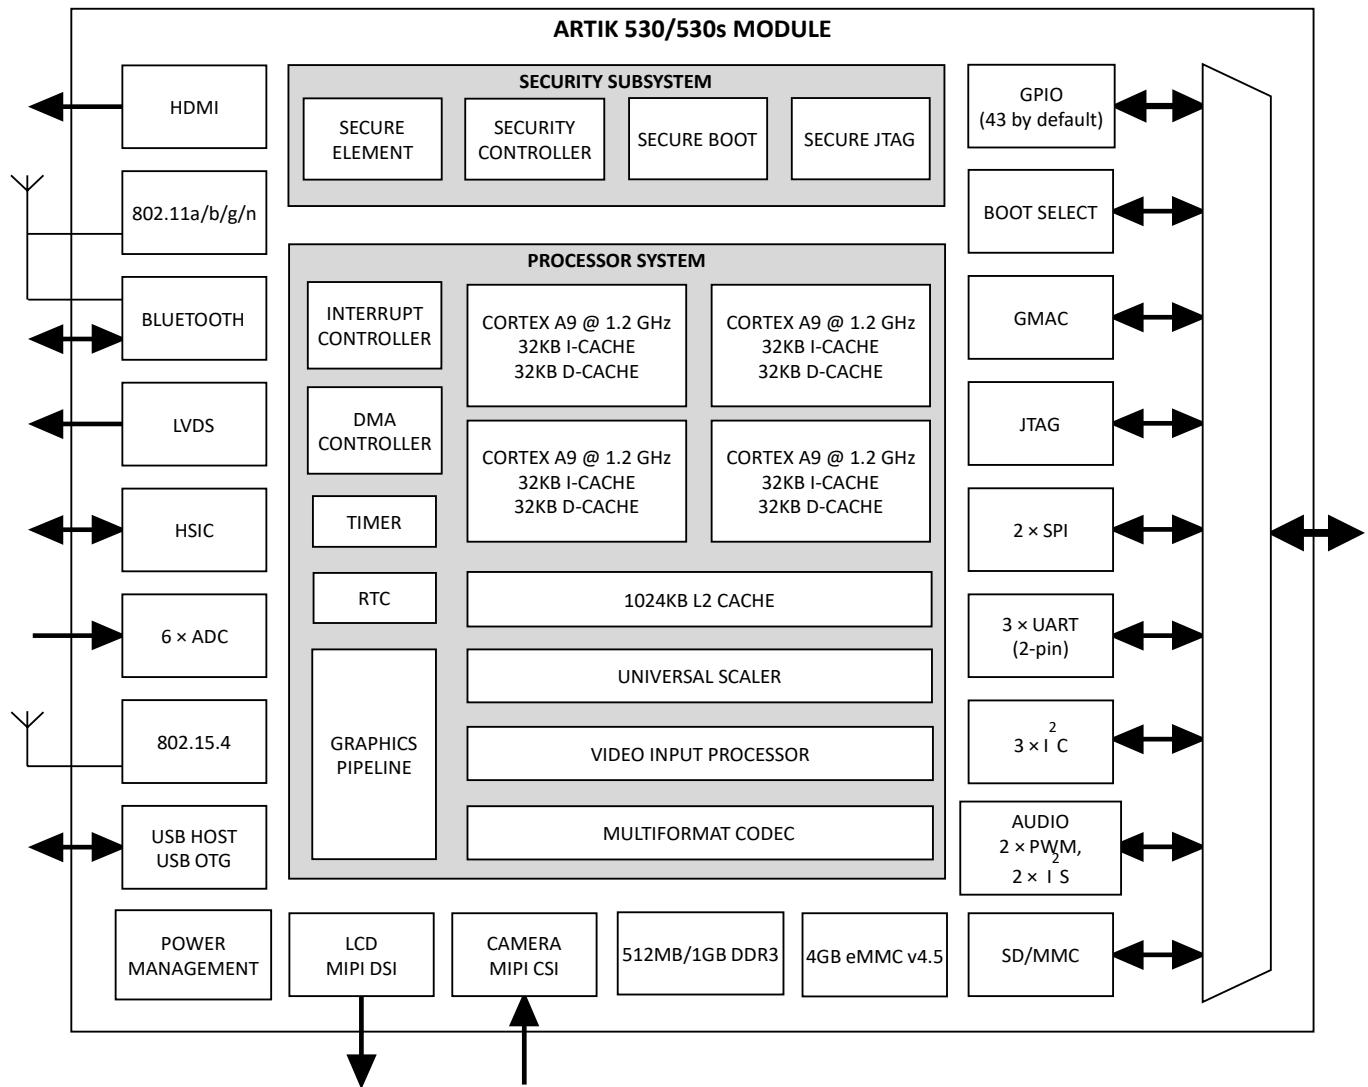

Figure 2. ARTIK 530/530s Module Functional Block Diagram
*Figure 2* shows the functional block diagram of the ARTIK 530/530s Module. It consists of a quad-core ARM® Cortex®-A9 application processor with 512MB or 1GB of DDR3 and 4GB eMMC, PMIC power management, Security Subsystem, 802.11 for Wi-Fi®, Bluetooth®, 802.15.4 for Zigbee, and RF connectors.
The following subsections describe the functions of the various ARTIK 530/530s Module blocks depicted in Figure 2.
The ARTIK 530/530s Module provides a GPIO system with up to 107 GPIOs multiplexed with other I/O interface lines, as shown in Figure 2 to support a wide variety of use-cases. The key features of the GPIO system are as follows: